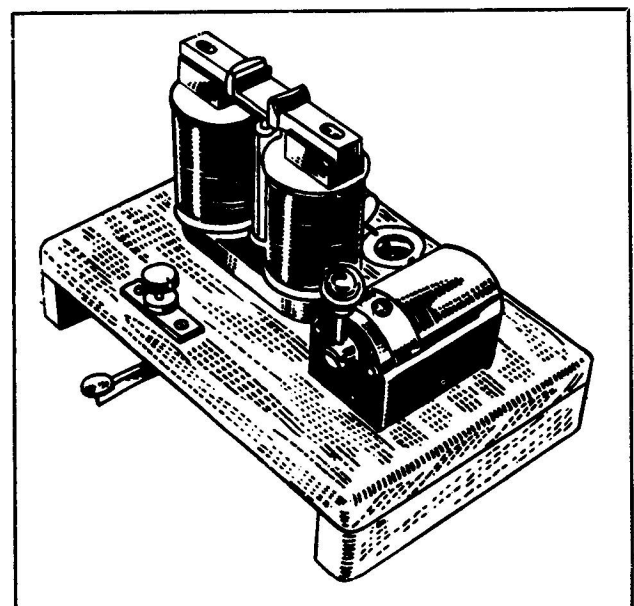

Figure 36 — Magnetizer
e. MAGNETIZER.—(See figures 36 and 38.) The magnetizer shown is for magnetizing both the card and compensator magnets of the compass. Two sets of pole pieces are shown for the two sizes of magnets. The brass holder is the correct size to locate the card magnets between the pole pieces. An ejector is provided to aid in removing the magnets after magnetizing.